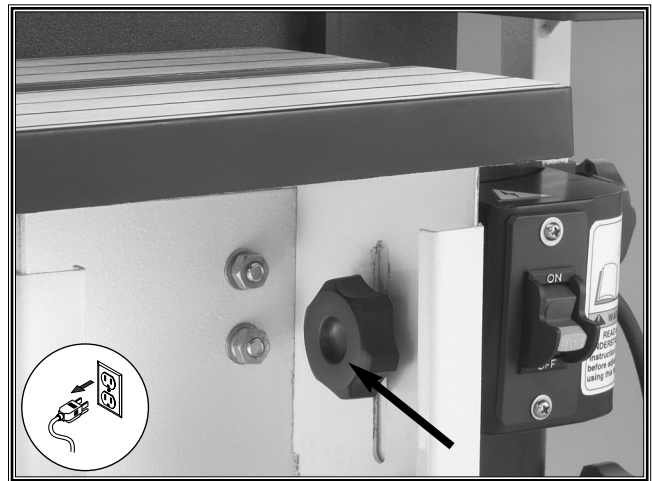

Figure 15. Height adjustment knob (1 of 2).
2. Loosen the adjustment knobs in **Figure 15** to adjust the edge sanding table height to the desired position.